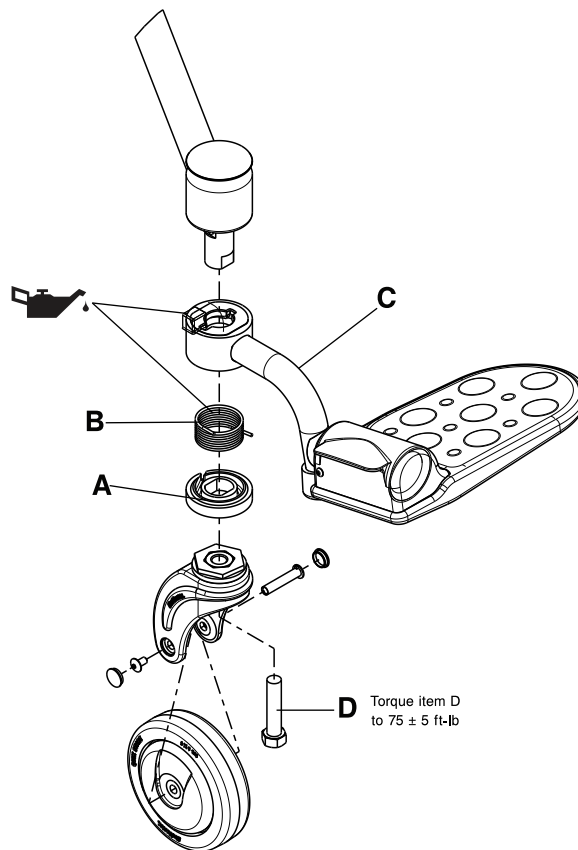

Figure 27: Swing-away footrest replacement
4. Grasp and pull down to remove the lower footrest spring holder (A). Discard the lower footrest spring holder.
5. Remove and discard the footrest torsion spring (B).
7. Rotate and pull downward to remove the swing-away footrest assembly (C). Discard the assembly.
8. Apply Syntec grease (3000-200-7 19) to the applicable areas (Figure 27 on page 44).
9. Reverse steps 3-8 to install the supplied swing-away footrest assembly. Using a 3/8" drive torque wrench, torque the caster fork bolt (D) to 75 ± 5 ft-lb before installing the caster to the fork.